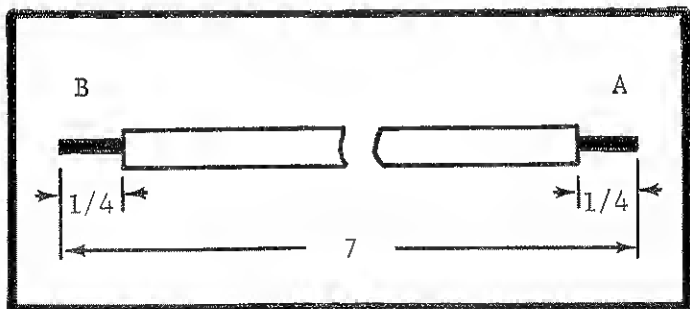
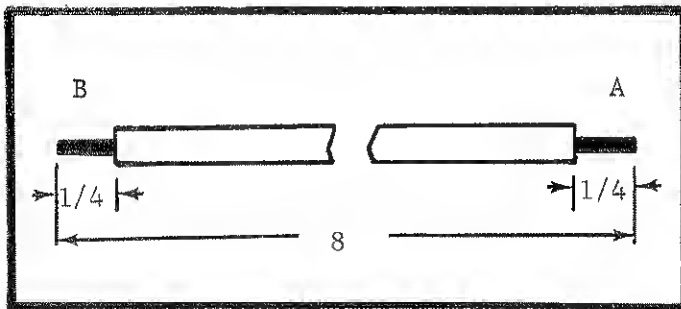

FIGURE 6. Dimensions for Cable #3 for Voltage Programing. Dimensions are in inches.
FIGURE 7. Dimensions for Cable #4 for Voltage Programing. Dimensions are in inches.
- b. Prepare the 7-inch cable #3 as shown in Figure 6 and the 8-inch cable #4 as shown in Figure 7.